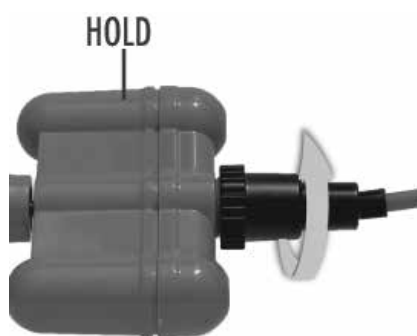

Figure S6A
3. Hold the swivel and hand tighten the black collar from the power cord to secure the connection (Figure S6A).